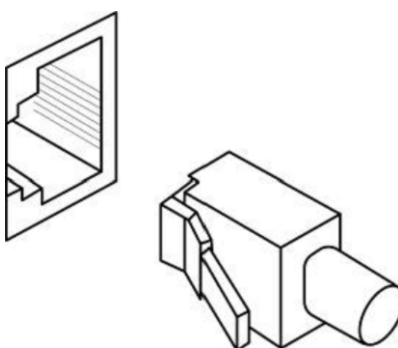

Figure 15: Copper Cable Installation
2. Connect the RJ-45 connector at one end of the cable to the RJ-45 port on the Industrial PoE Switch. See Figure 15 below.